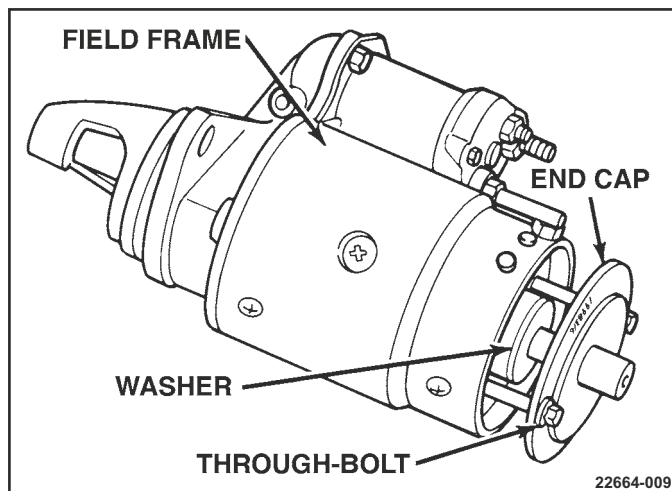

Figure 4-3 End Frame Removal
4. Remove end cap through-bolts, end cap, washer and field frame (figure 4-3).